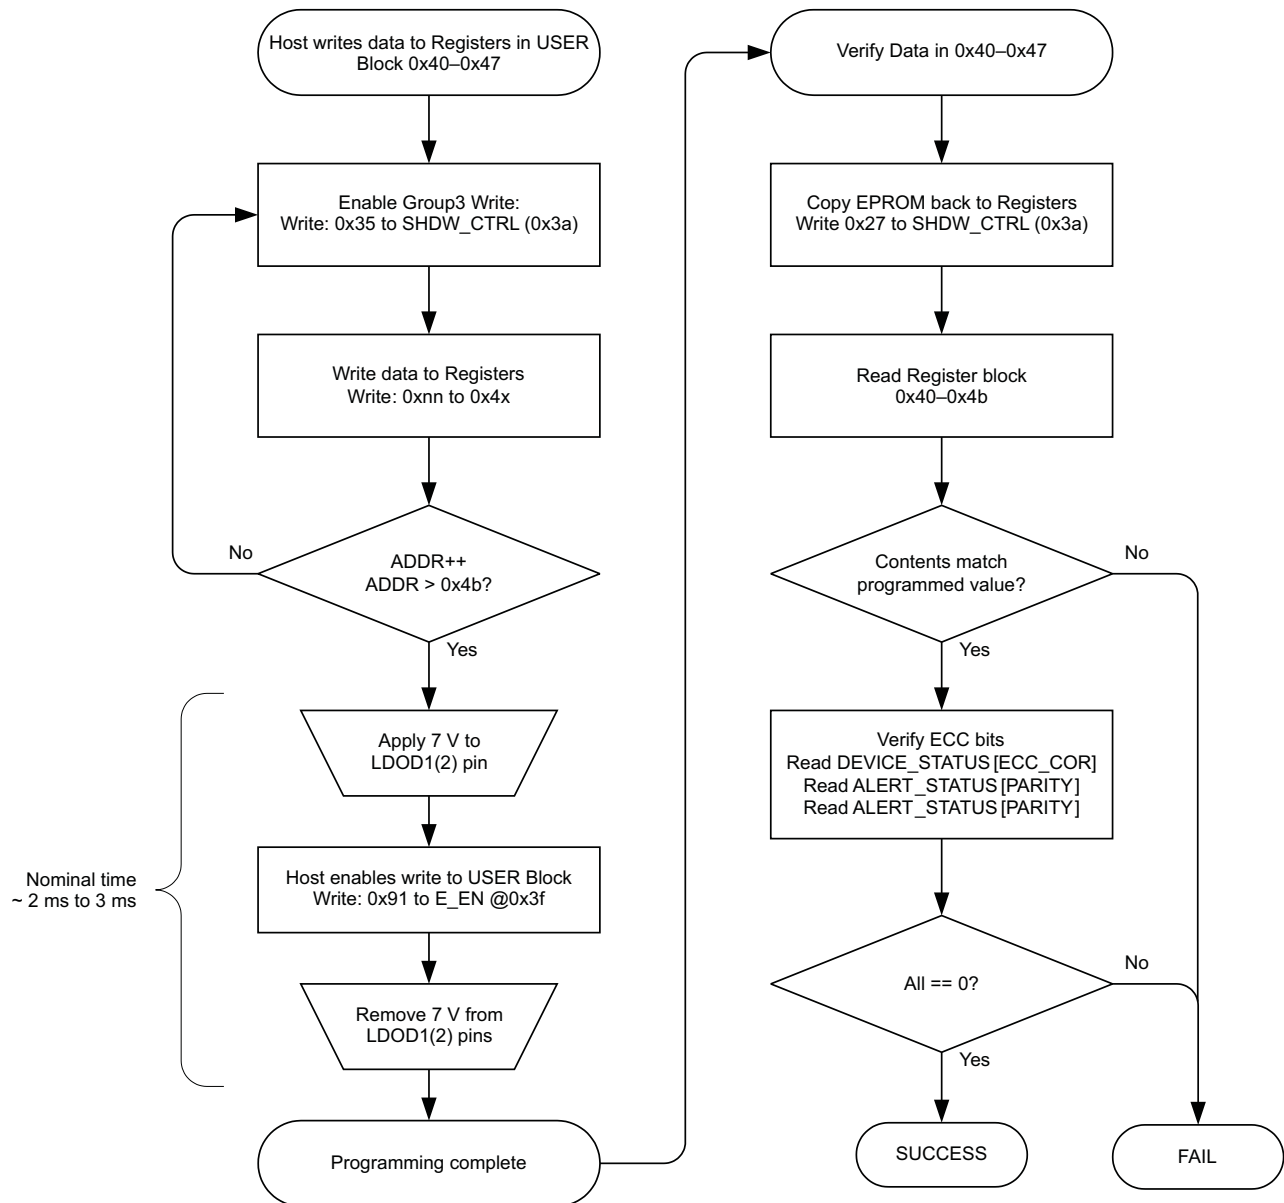

图 24. EPROM Programming
The user first writes the desired values to all of the equivalent Group3 protected register addresses. The desired data is written to the appropriate address by first applying 7 V to the LDOD1(2) pins. Programming then performed by writing to the EE_EN register (address 0x3f) with data 0x91. After a time period > 1500 μ s, the 7 V is removed. Nominally, the voltage pulse should be applied for approximately 2–3 ms. Applying the voltage for an extended period of time may lead to device damage. The write is self-timed internally after receipt of the command. The following flow chart (Figure 24) illustrates the procedure for programming.